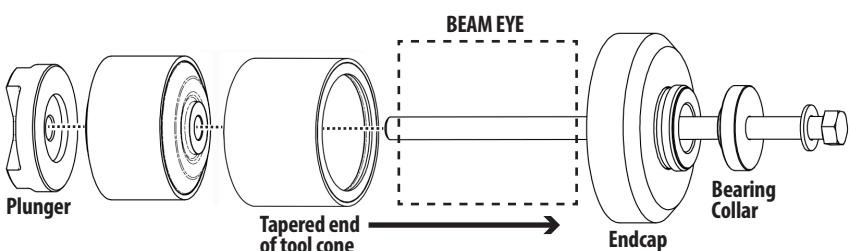

Figure 2.
4. Thread the plunger onto the hex-head cap screw until tool cone is held firmly against the beam (Figure 2).